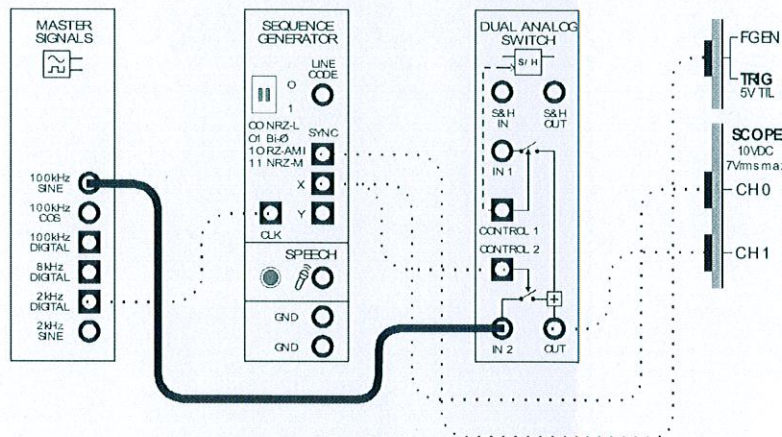

Figure 4
13. Modify the set-up as shown in Figure 4 below.